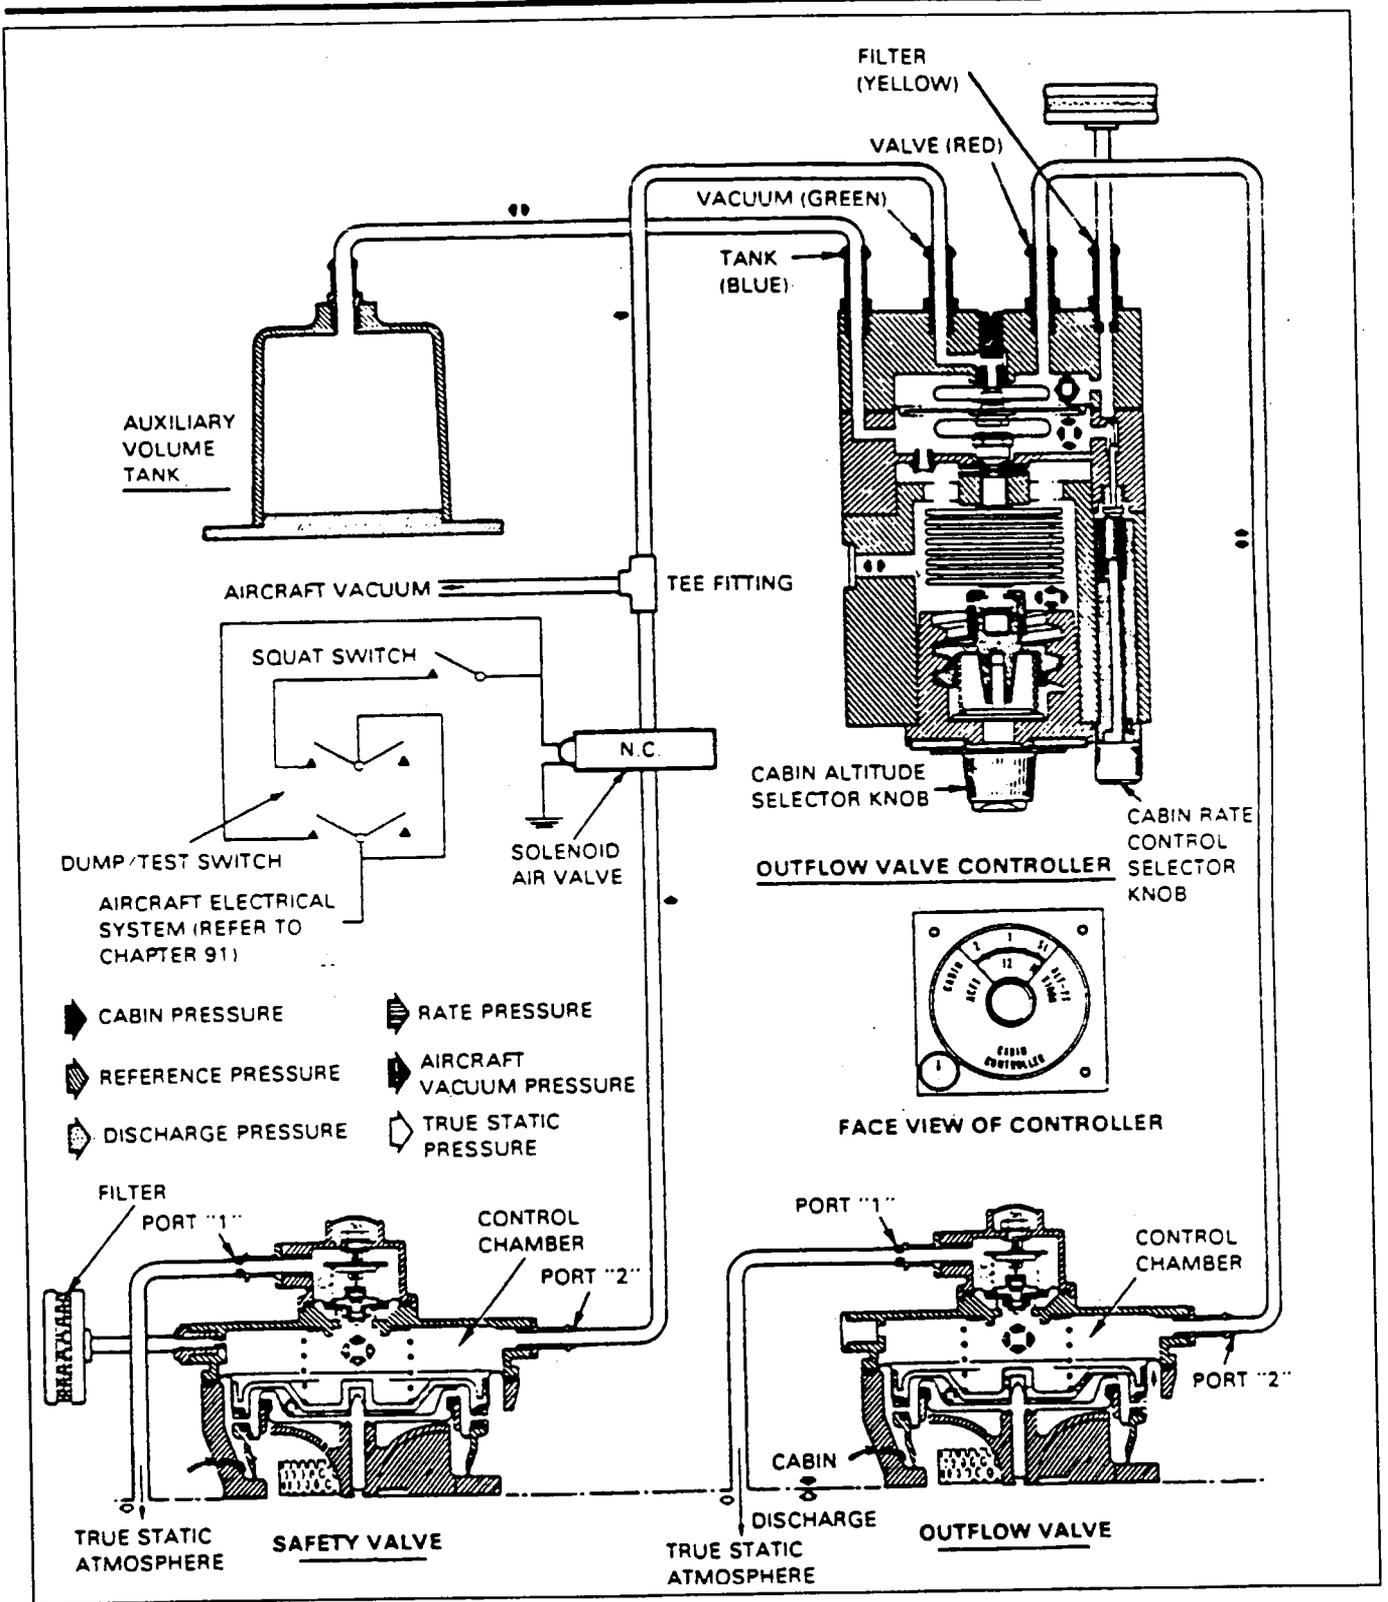

Figure 21-2. Cabin Pressure Control System Schematic (Garrett)
**PRESSURIZATION CONTROL.** (Refer to Figure 21-2.)